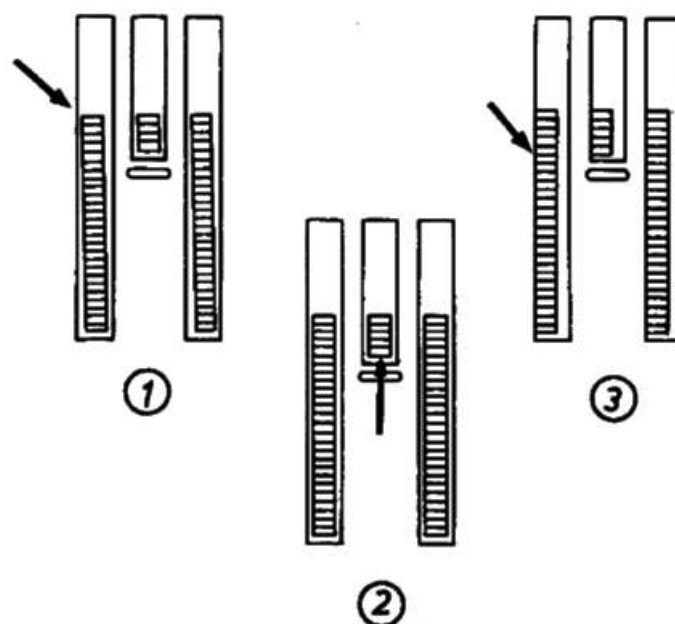

Fig. 35
If it is set oblique in the feed slots ① (Fig. 35), correct this condition after loosening both set screws (82) in the feed dog.
In case the feed dog is not correctly centered and chafes against one side of the feed slots ③ (Fig. 35), adjust as follows:
Set the machine for the longest forward stitch. Loosen binding screw (67 or 68) in feed driving shaft crank (2249 or 60132) and turn the crank so on the shaft that the feed dog will rise for its forward motion as close to the near edge of the feed slots as possible. Also make sure that the feed dog will strike neither the near nor far ends of its slots when set for the longest forward or backward stitch ② (Fig. 35).